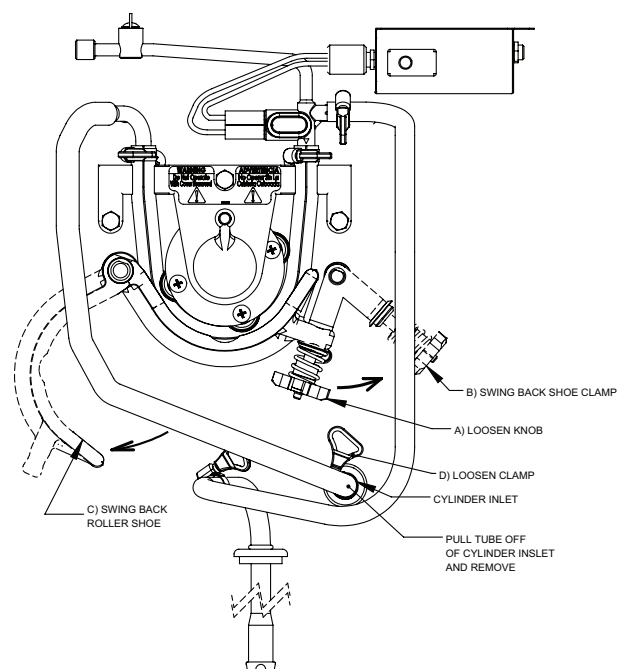

Figure 7-4 MTS (LEFT SIDE*)
12. Remove MTS hose assemblies from the Mix Transfer Systems as follows (figure 7-4):